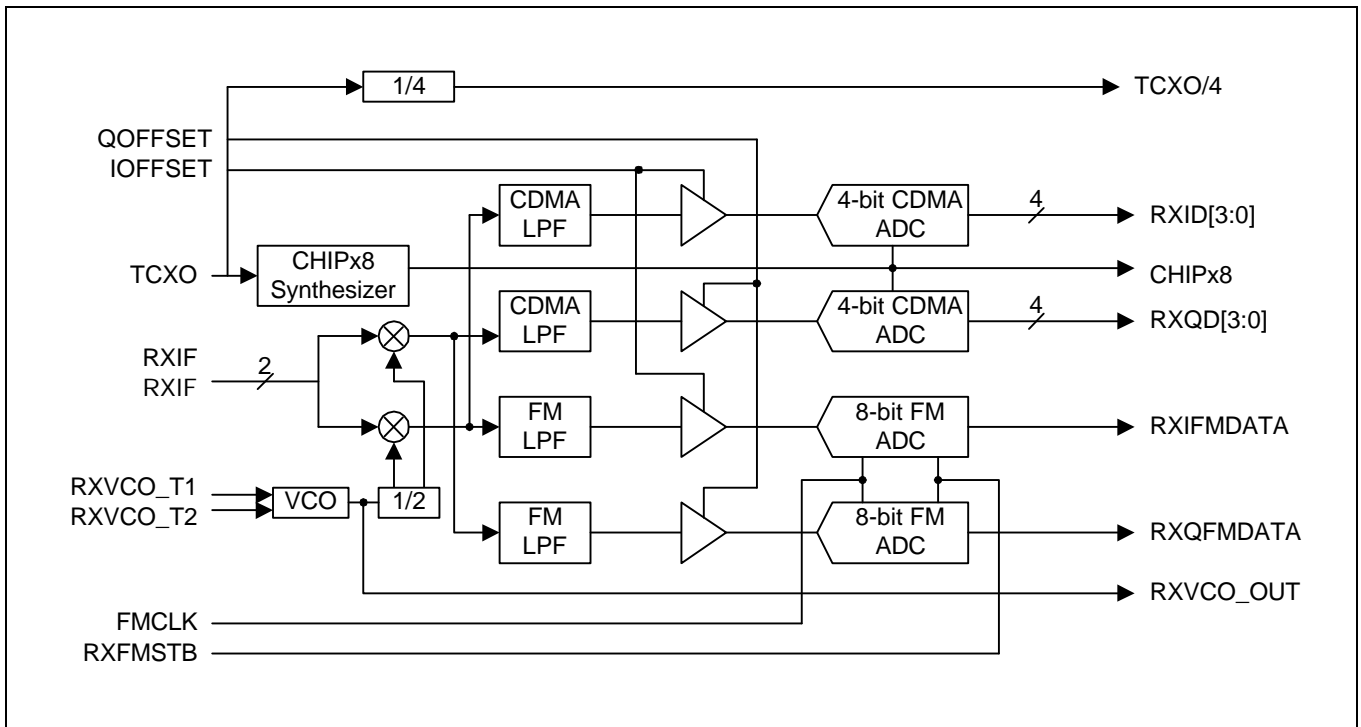

Figure 3. Receive Section Block Diagram
The S1M8653B receive signal path(see Figure 3) is designed to accept differential IF signals with CDMA spread spectrum modulation extending $\pm 630\text{kHz}$ from the IF center frequency of 85.38MHz(or 220.38MHz). The incoming IF signal is reduced to I and Q base-band components by mixing with 85.38MHz local oscillator (LO) signals in quadrature followed by low pass filtering.